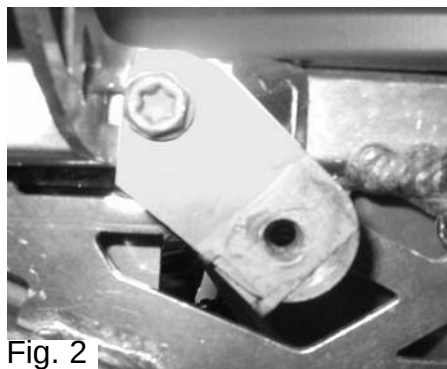

Fig. 2
10. Locate the two (2) bolts attaching the right-rear fender support to the subframe and remove only the leading or most forward bolt. Attach the supplied muffler hanger to the subframe using the fender support bolt. Do not fully tighten at this time. Use the stock clip-nut removed in step #4 and slide onto the muffler hanger (fig.2).